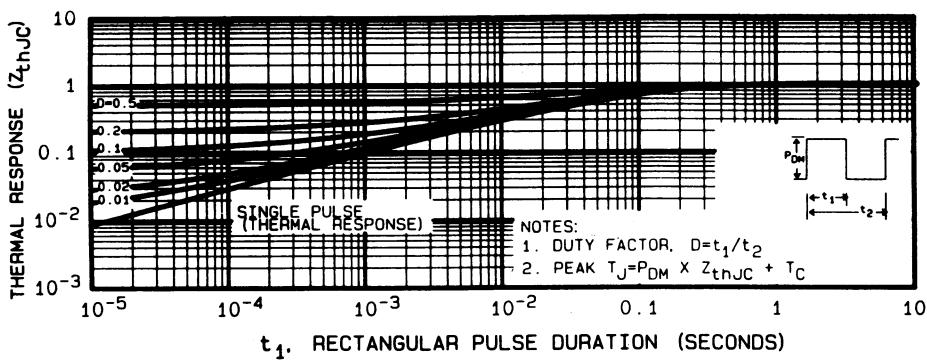

Fig. 5 - Maximum Effective Transient Thermal Impedance, Junction-to-Case Vs. Pulse Duration
① Repetitive Rating: Pulse width limited by maximum junction temperature (see figure 5).
② @ $\text{V}_{\text{DD}} = 50\text{V}$, Starting $T_J = 25^\circ\text{C}$, $L = 16\text{mH}$, $R_G = 25\Omega$, Peak $I_L = 6.8\text{A}$
③ Pulse width $\leq 300\mu\text{s}$; Duty Cycle $\leq 2\%$